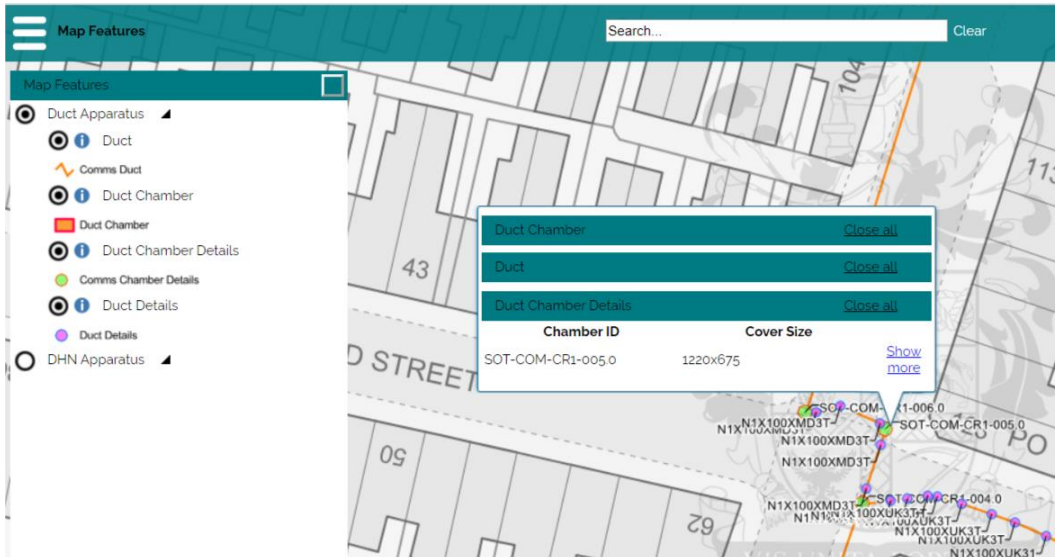
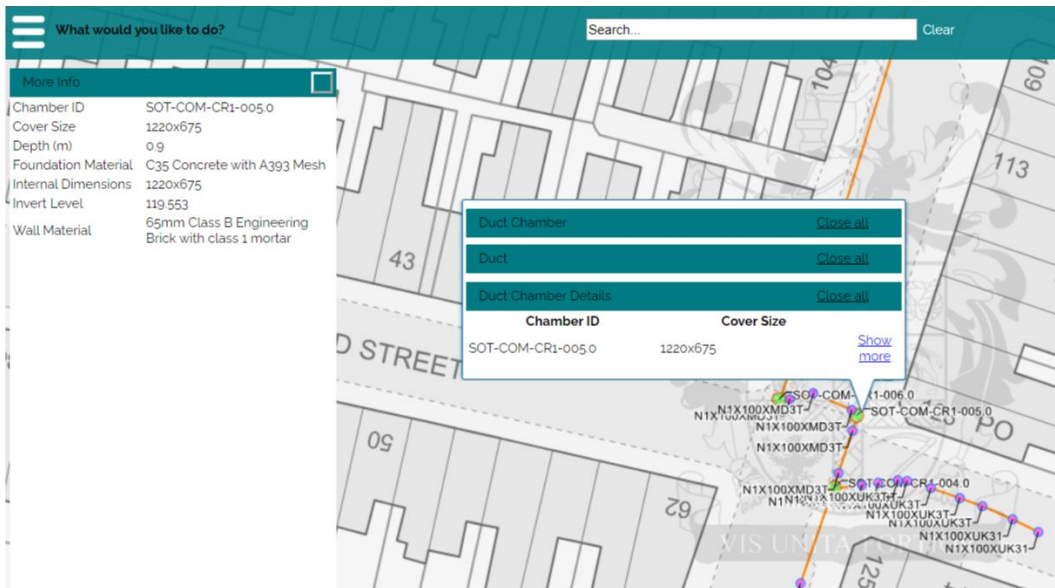

Figure 4 - Duct Chamber Details Layer, "Key Information".
Figure 5 - Duct Chamber Details Layer, "More Info".
- Duct Chamber Details – shows details regarding the duct chambers. Further detailed information can be accessed by clicking on the features on the map. A pop-up box will appear with displaying key information as shown in Figure 4. If the pop-up box has a show more option this can be clicked on and a “More Info” box will appear on the left-hand side with all the detailed information displayed as shown in Figure 5. The detailed info includes:-
- DHN Chamber Details – shows details regarding the DHN chambers. Further detailed information can be accessed by clicking on the features on the map. A pop-up box will appear with displaying key information as shown in Figure 4. If the pop-up box has a show more option this can be clicked on and a “More Info” box will appear on the left-hand side with all the detailed information displayed as shown in Figure 9. The detailed info includes:-